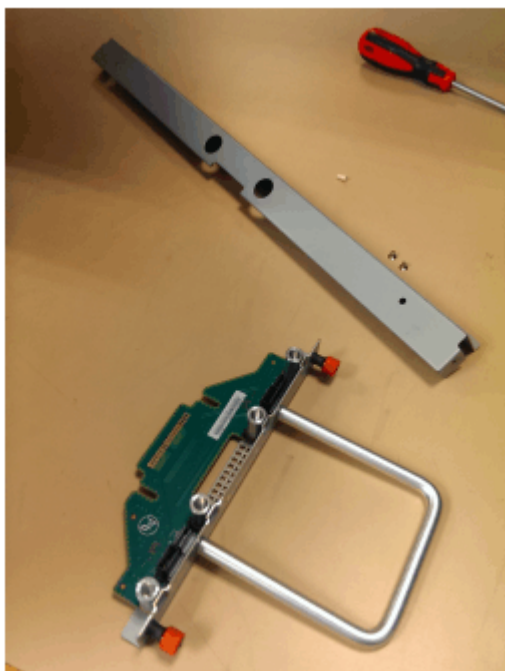

Figure 127. FIB parts removed from the chassis
4. Place the FIB (shown in Figure 127 on page 106) in a safe location.